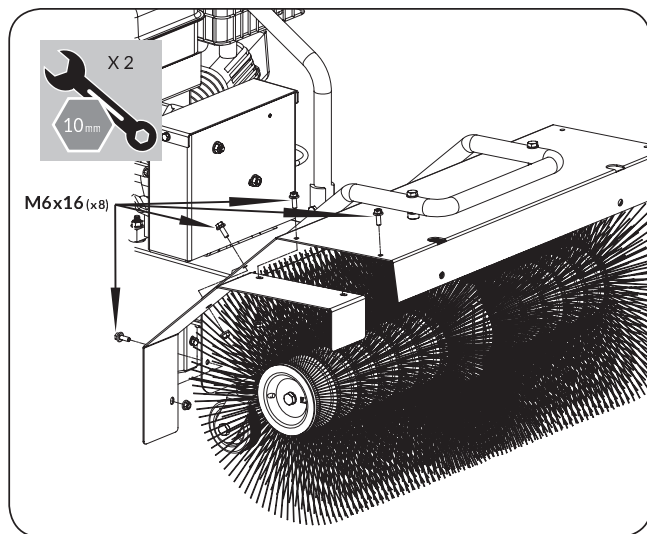

Figure 6
1. Align the holes in extension cover plate with holes in brush cover. Insert 4 bolts M6x16 and secure with 4 nuts M6. (See **Figure 6**)